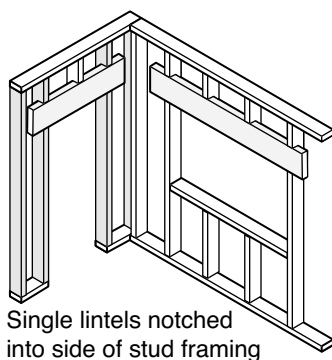

FIGURE 19
- ◆ In load-bearing exterior walls, fabricate structural box beams to serve as headers over doors and windows. The use of structural sheathing on both sides of the framing allows for the incorporation of higher levels of insulation at headers (see Figure 19).